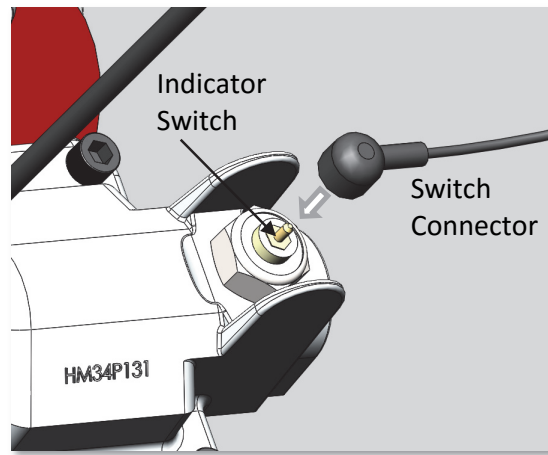

Fig. 13
8. Connect the switch connector into the indicator switch (Fig. 13).